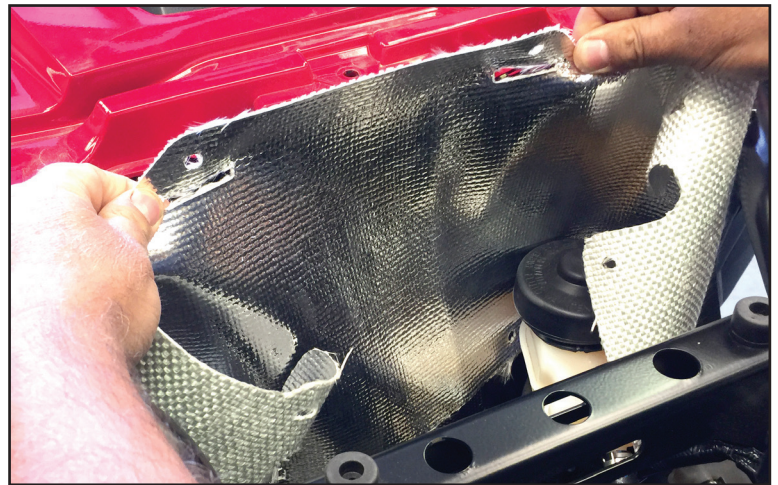

Figure 7
8. Take the soft glass fiber shield and install with the reflective side facing forward. Install with the new supplied push pins and factory pins removed in step 2. See fig 7